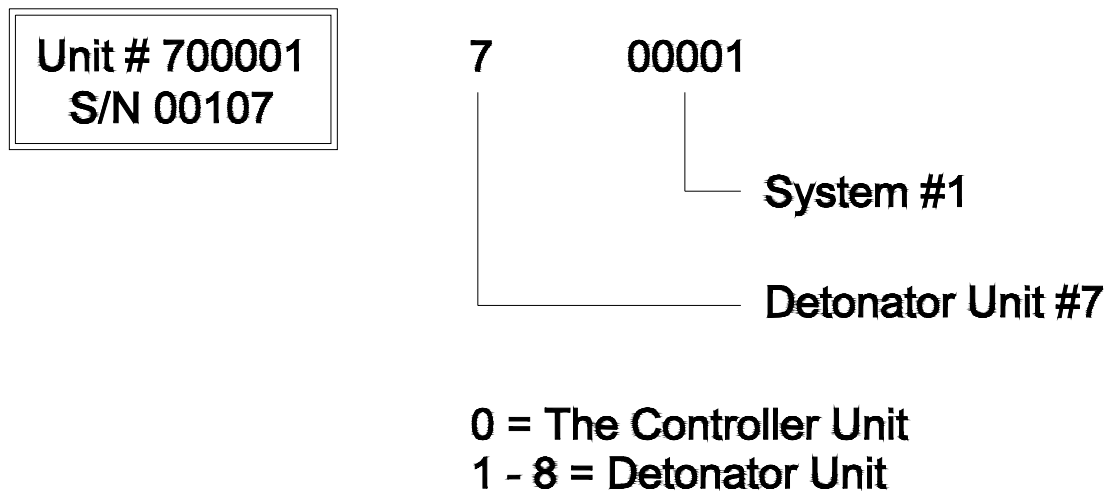

Figure 3-1 Identification Label.
3.6.1. Each Controller Unit and Detonator Unit is marked with an identification label. Figure 3-1. Shows how the identification label should be interpreted. The Controller Unit will only communicate with Detonator Units from the same System.